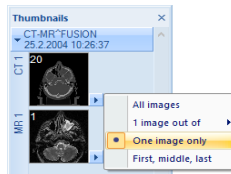

Figure 32 – One image only display (all separated series mode)
- **One image only** - the first image in the series of the selected study is displayed (see Figure 32).